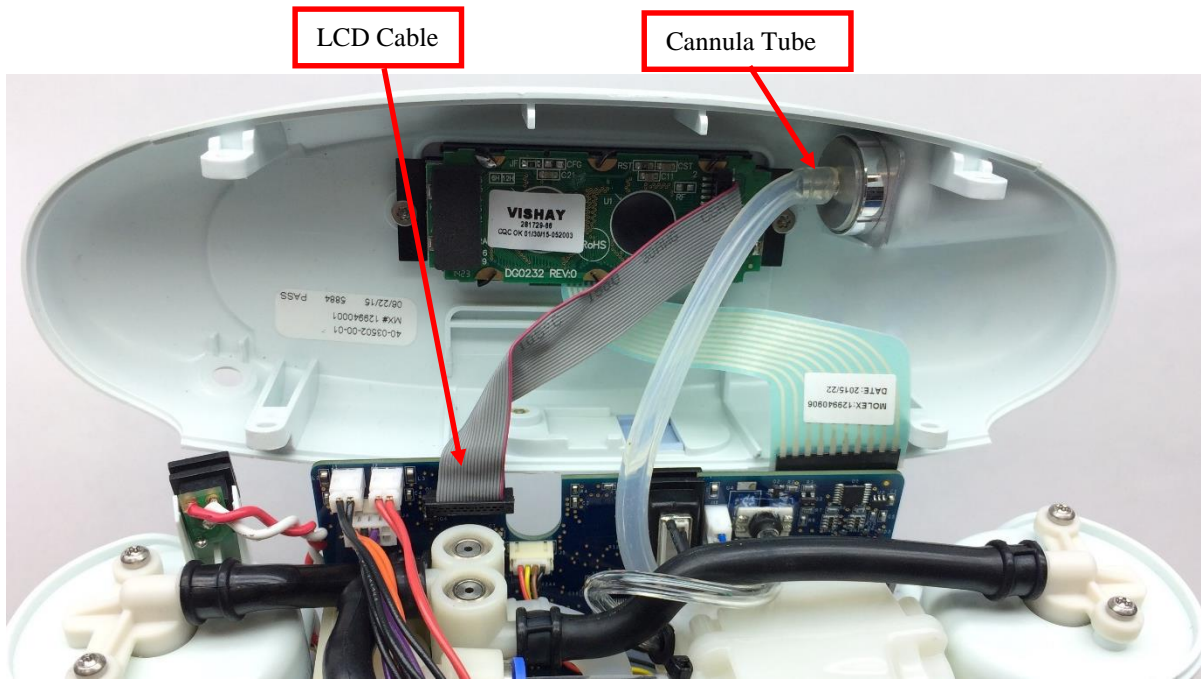

Figure 4: Remove cannula tube and LCD cable from user interface panel
3. Gently unplug the cannula tube and the LCD cable from the user interface panel (Figure 4). Remove the user interface panel.
1. With the new receptacles installed, the user interface panel can now be replaced. Plug the LCD cable back into the motherboard (Figure 4). *Note orientation of red wire.* Re-attach the cannula tubing to the cannula connector.